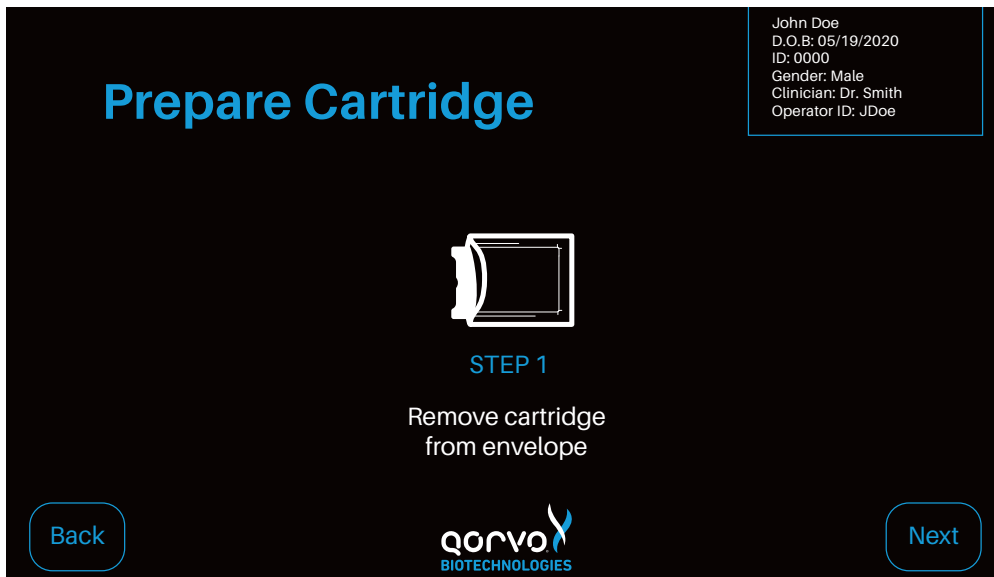

Figure 25
2. The Prepare Cartridge screen appears (Figure 25).